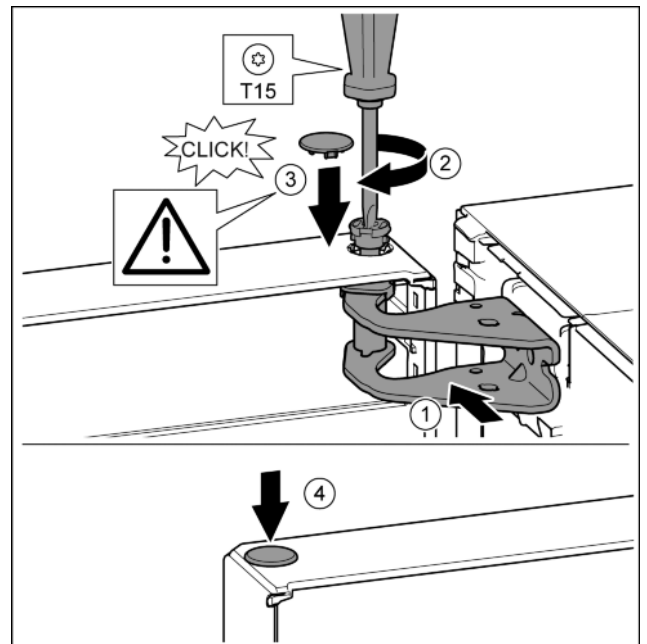

Fig. 17
- ▶ Align the top of the door with opening in the bearing bracket. Fig. 17 (1)
- ▶ Insert the bolt and tighten with a T15 screwdriver. Fig. 17 (2)
- ▶ Fit the protective cover to protect the door: Insert the protective cover and check that it is attached to the door. If not, insert the bolt fully. Fig. 17 (3)
- ▶ Insert the plugs. Fig. 17 (4)